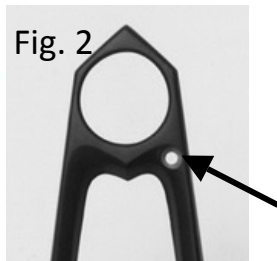

Fig. 2
- 2 Slide supplied Bolt through the hole on your new Low and Mean Chin Fairing. On the back side, slide on rubber washer then aluminum spacer followed by the SS washer. Fig. 2